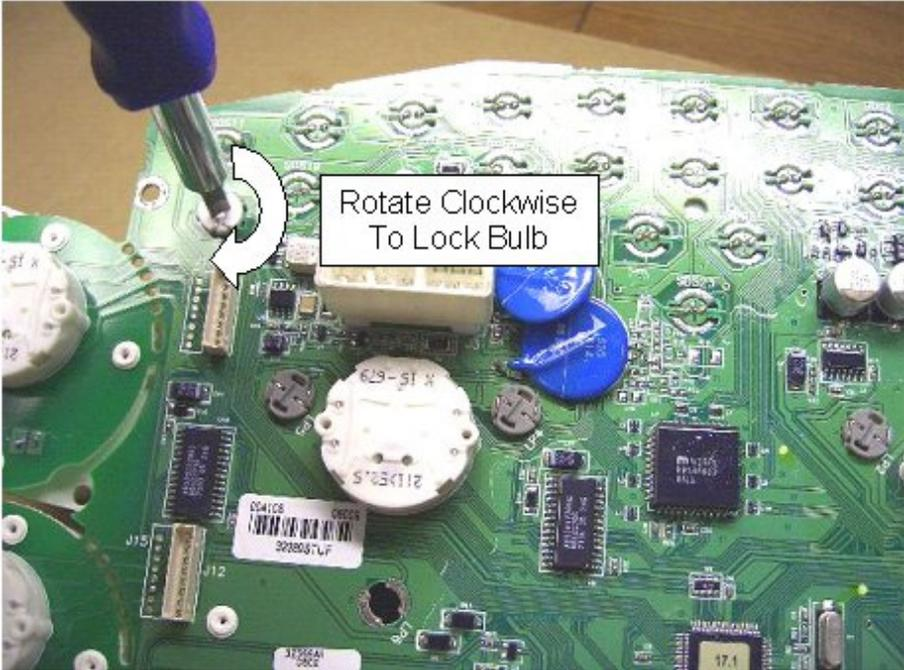

Figure 11
10. Insert the replacement LED into the mounting hole. Place the wider tab as shown in Figure 9 toward the right side of the mounting hole as viewed from rear of the printed circuit board. Insert a small flat bladed screw driver into the LED base and rotate it clockwise until the stop is felt (approx. 30°). See Figure 11. If the replacement LED is placed into the hole with the larger lug on the left side, it will not illuminate. LED's must have the proper polarity to function properly.